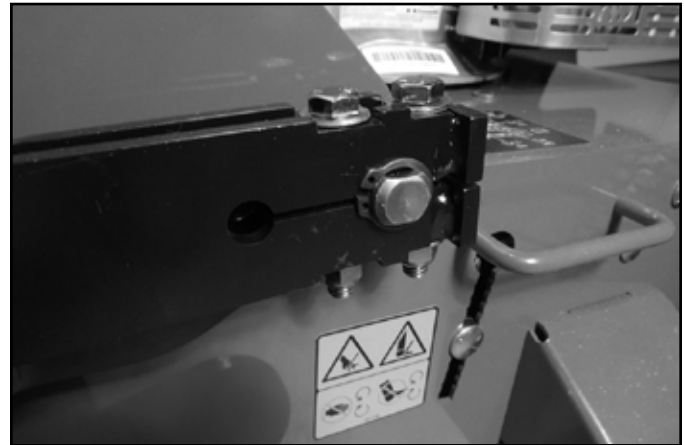

Fig. 071 RH lift arm
2. Remove the two bolts from the right hand lift arm (Fig. 071).